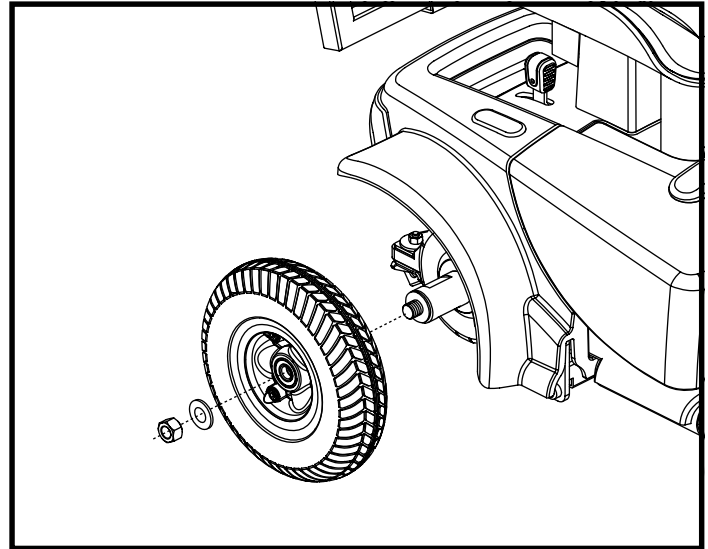

Figure 24. Go-Chair Drive Wheel
3. Remove the drive wheel nut from the wheel hub. See figure 24.